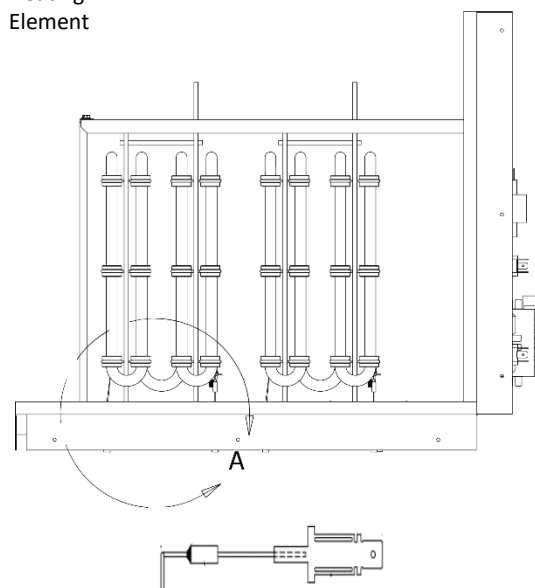
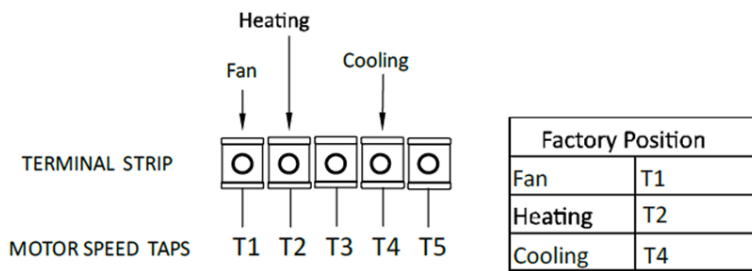

**FIGURE 24 – Auto-Reset Temperature Limit Switch**
**FIGURE 25 – HEATING MODULE**
The electric heater is equipped with auto-reset temperature limit switch (**FIGURE 24**) and non-resettable fuse link (**FIGURE 25**). If an abnormal situation such as low airflow due to dirty/clogged air filter, air leak or no airflow due to failed motor, causes the supply air temperature to rise above acceptable limit, the auto-reset limit switch will interrupt the power to the heating elements. Once the heating elements cool down, the limit switch will close and the power to the heating elements will be restored. The heater will resume operation. If the auto-reset limit switch fails to react and is permanently closed, the non-resettable fuse link will activate to cut off the power to the heating elements permanently. The heater will stop working until the fuse link is replaced by a certified technician or agency. See MAINTENANCE & SERVICE- ELECTRIC HEAT section for replacement procedure
The electric heater is protected by auto-reset temperature limit switch and non-resettable fuse link for low airflow or no airflow caused by dirty/clogged air filter or motor failure, refer to **FIGURE 24** and **FIGURE 25**.
3 kW and 5 kW heaters have one heating element. 7 kW and 10 kW heaters have two heating elements. Each heating element is connected to one fuse link. Refer to **FIGURE 25**. If heater is overheated and auto limit switch fails to react, the fuse link will permanently open and cut off the power to the electric heater. In this case, the fuse link must be replaced in order for the heater to work again. Following below procedures. Follow below procedures.
- 5) Replace the broken fuse link. Refer to **FIGURE 25 –**